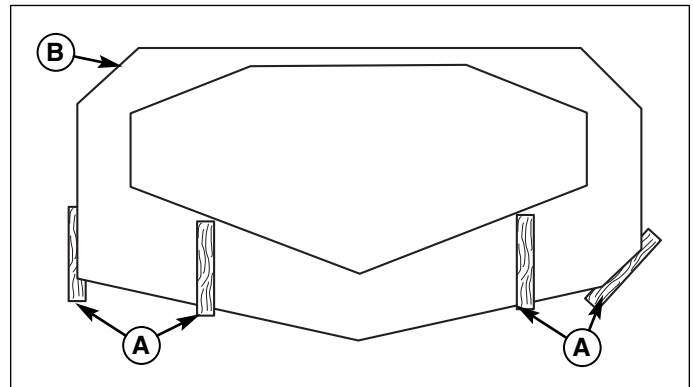

Figure 1. Position of Wooden Blocks
3. Refer to Figure 1. Place approximately 8" of wooden blocking under the mower deck and lower the deck onto the blocking. Position jack under the front of the machine. Lift the front caster wheels off the ground and place approximately 4" of wooden blocking between the mower deck and the frame. Lower the jack down until the frame rests on the blocking. Remove the jack.